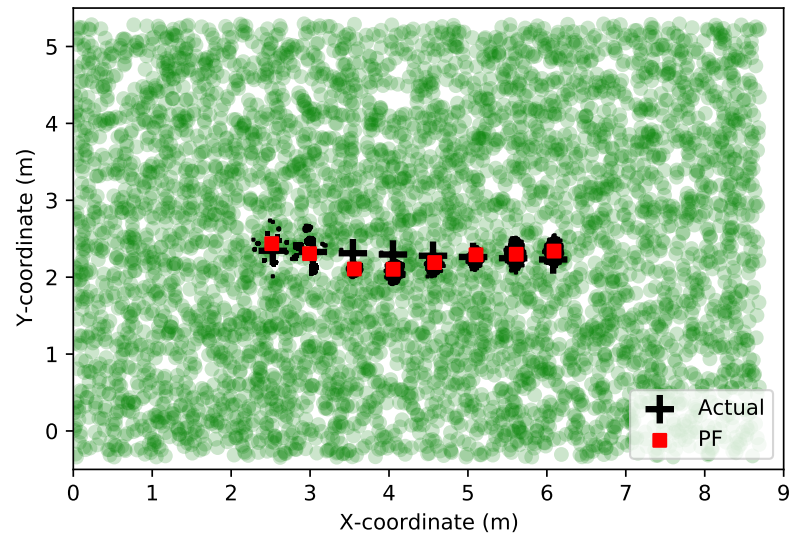

Figure 3: Single movement plot with remote control alone - 8 iteration 5k particles
- According to the comparison from Figure 3 and 4 we can see, when we increase the numbers from 5k to 10k, after the first iteration, there's definitely more particles around the ground truth position of the robot, which makes the result more reliable, at the same time, the cost is the increment of the time for computation.